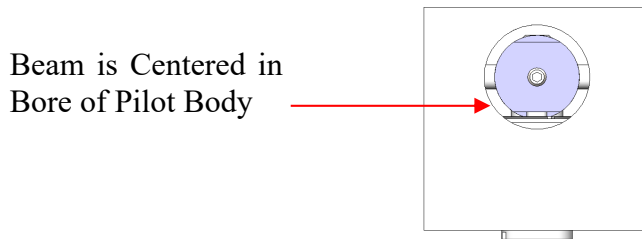

Figure 49: Beam is Centered
8. The beam should appear approximately centered, as shown in Figure 49.